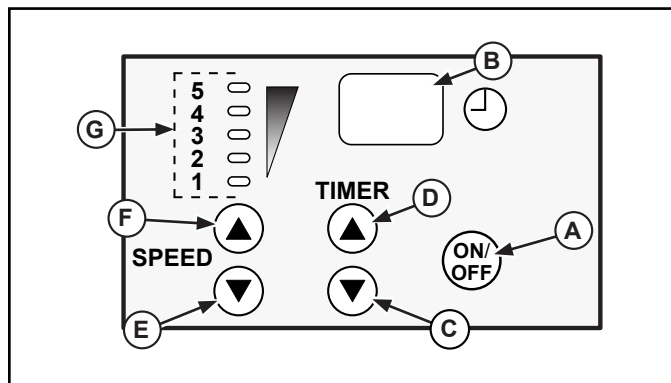

Figure 5. 7 Quart and 10 Quart Mixer Control Panel.
- Select the desired operating speed based on the ingredients. Use the speed up (E) or speed down button (F) to program the speed. See Figure 5.
- Set the time cycle, if desired by using the time up button (C) and time down button (D). The maximum time that can be set is 30 minutes.
- To begin mixing cycle press the on/off button (A). The mixer will continue to operate until the on/off button (A) is pressed again. Or, the mixer will operate until the time cycle has been completed.